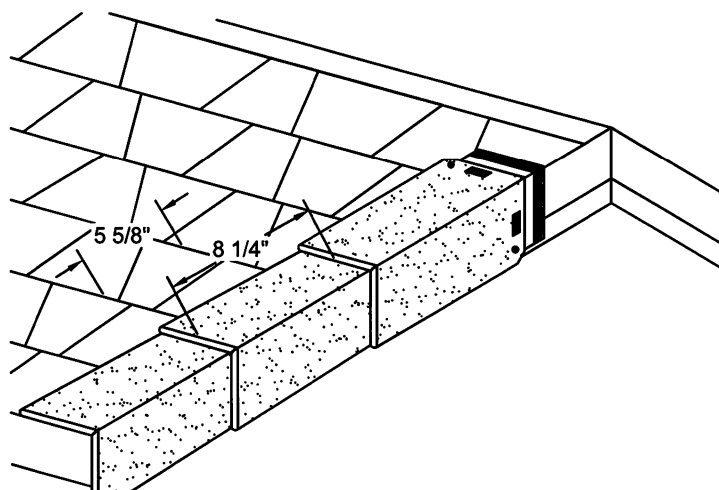

Figure 26 - Installation of EZ-Ridge™ Shingles on Rake Edges of the Roof
3. Note: Installation with exposed nails may affect the aesthetic appeal of EZ-Ridge™ shingles. (See Figure 26)